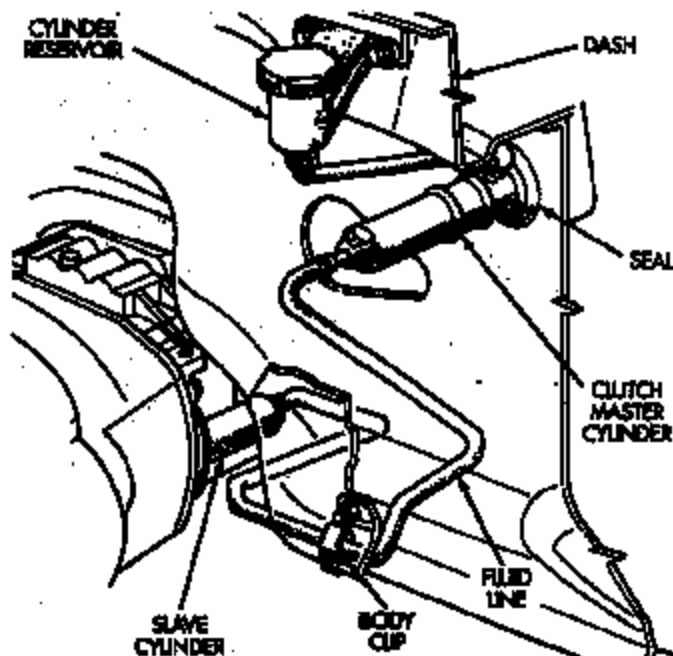

Figure 1
2. Remove the nuts that attach the clutch slave cylinder to the clutch housing (Figure 1).
4. Remove the clutch line clip(s) from the lower body flange (Figure 1).
12. Remove the two (2) clutch reservoir mounting screws (Figure 1).
13. Remove the clutch master cylinder as follows (Figure 1):